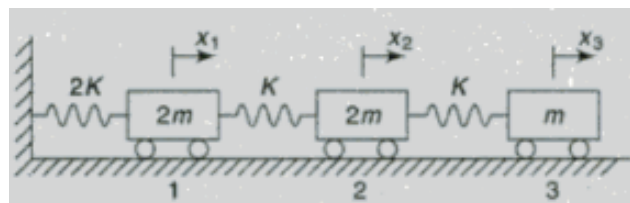

Figure 4
4. Show how flexibility influence coefficients are used to obtain fundamental natural frequency of a system shown in figure 4 below by Stodola method.
5. Find the lowest natural frequency and modal vector of the system shown in figure 4 by matrix iteration method. Draw mode shape.